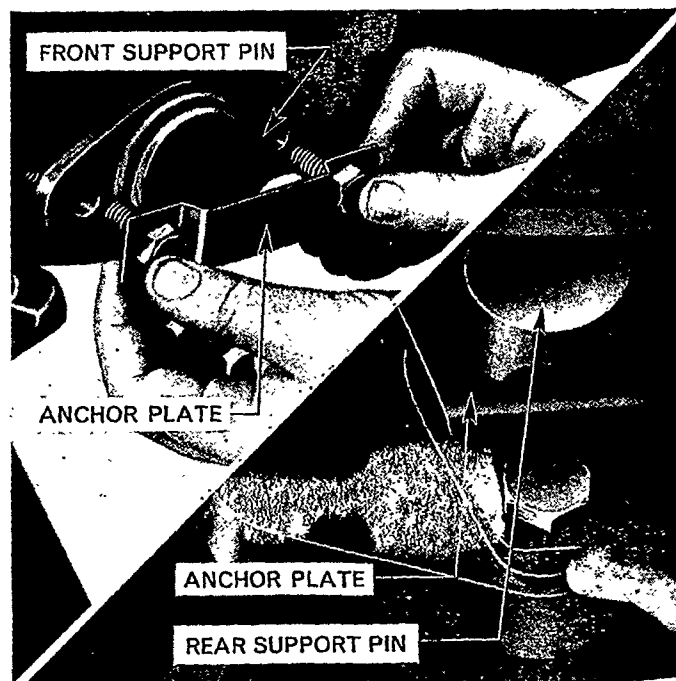

Figure 18
3. Position the rear support pin thrust washer and install the rear support pin. Install the anchor and retaining bolts for each support pin, Figure 18. Tighten the bolts to the specified torque and bend the anchor locking tabs to locate.